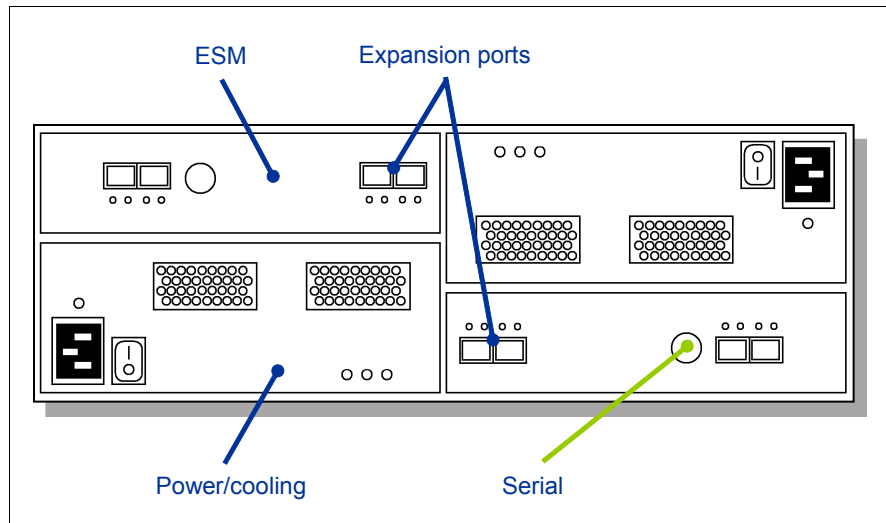

Figure 7-17 DS4000 EXP810 rear components
- ▶ Figure 7-17 shows the rear components of DS4000 EXP810